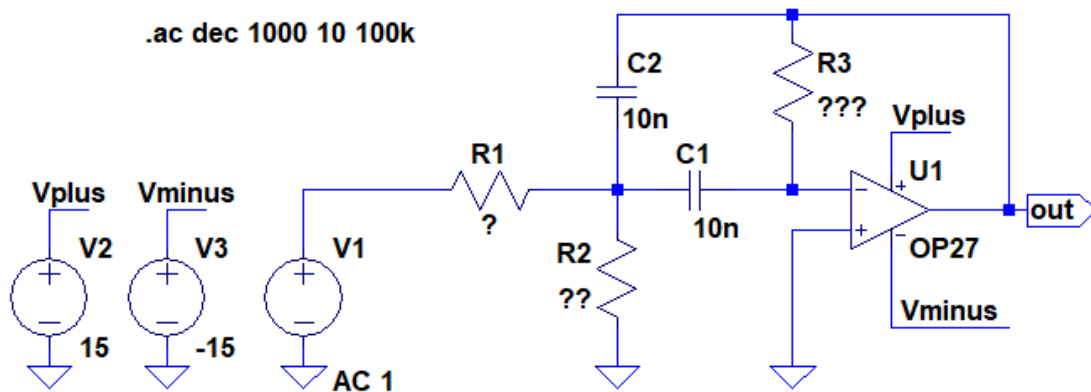

Fig. 6. Band pass filter (BPF).
1. Calculate the values of the resistors of the band-pass filter (Fig. 6). Make the following assumptions: